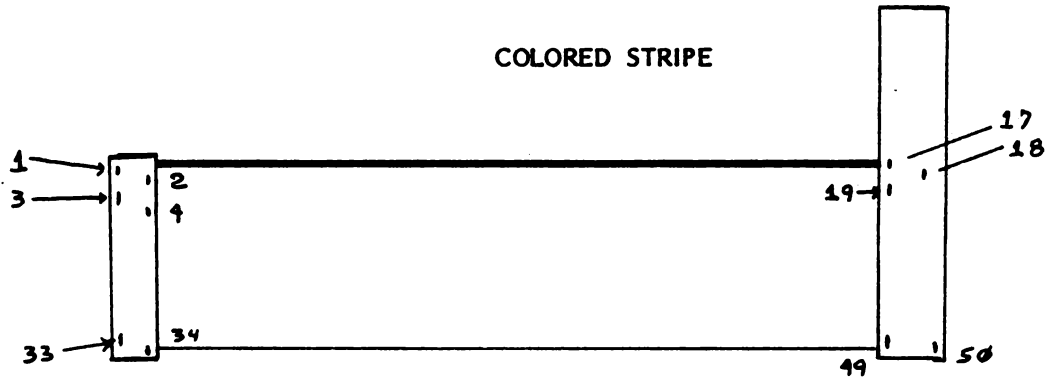

FIGURE A.1 ASSEMBLY DIAGRAM - 8 INCH DRIVE CABLE
**A.2 CS-5 ASSEMBLY INSTRUCTIONS - PLEASE REFER TO FIGURE A.1**
- b. While keeping these wires pulled back and out of the way, align the remaining lines of the cable as shown in FIGURE A.1 so that Line 1 goes to Pin 17 and line 33 goes to Pin 49 of the 50 Pin connector. This will leave some of the connections on the even numbered side of the 50 position connector open where you have peeled wires out of the cable. Do not attempt to connect any of the remaining wires to any of these open connectors at this time. **MAKE CERTAIN THAT EACH OF THE INDIVIDUAL CONDUCTORS REMAINING IS PROPERLY ALIGNED WITH EACH OF THE PINS OF THE 50 CONDUCTOR CABLE AND CRIMP THE CONNECTOR TO THE CABLE AS ABOVE, MAKING CERTAIN THAT THE 34 CONDUCTOR CABLE EXTENDS BEYOND THE OPPOSITE SIDE OF THE 50 PIN CONNECTOR AT LEAST 2 INCHES.**